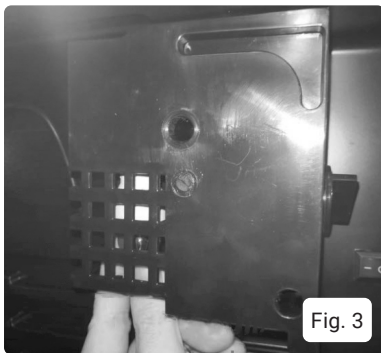

Fig. 3
- Carefully unscrew the bulb (anti clockwise) until it comes away from the unit (Fig. 3).